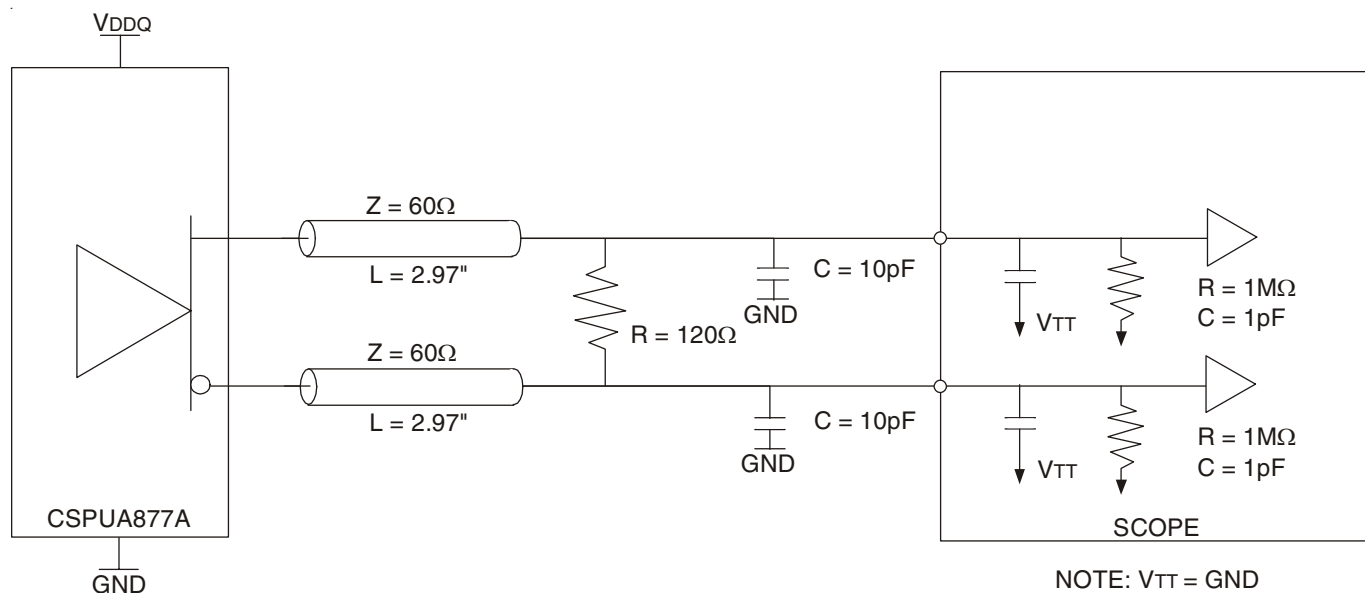

Figure 1: Output Load Test Circuit 1
- There are two different terminations that are used with the above AC tests. The output load shown in figure 1 is used to measure the input and output differential pair cross-voltage only. The output load shown in figure 2 is used to measure all other tests, including input and output slew rates. For consistency, use 50 $\Omega$  equal length cables with SMA connectors on the test board.
- In the frequency range of 271 - 410MHz, the min and max values for tJIT(PER) and t( $\phi$ )DYN, and the max value for tsk(O), must not exceed the corresponding min and max values of the 160 - 270MHz range. Also, the sum of the specified values for | tJIT(PER) |, | t( $\phi$ )DYN |, and tsk(O) must meet the requirement for  $\Sigma$ t(SU), and the sum of the specified values for | t( $\phi$ )DYN | and tsk(O) must meet the requirement for  $\Sigma$ t(H).